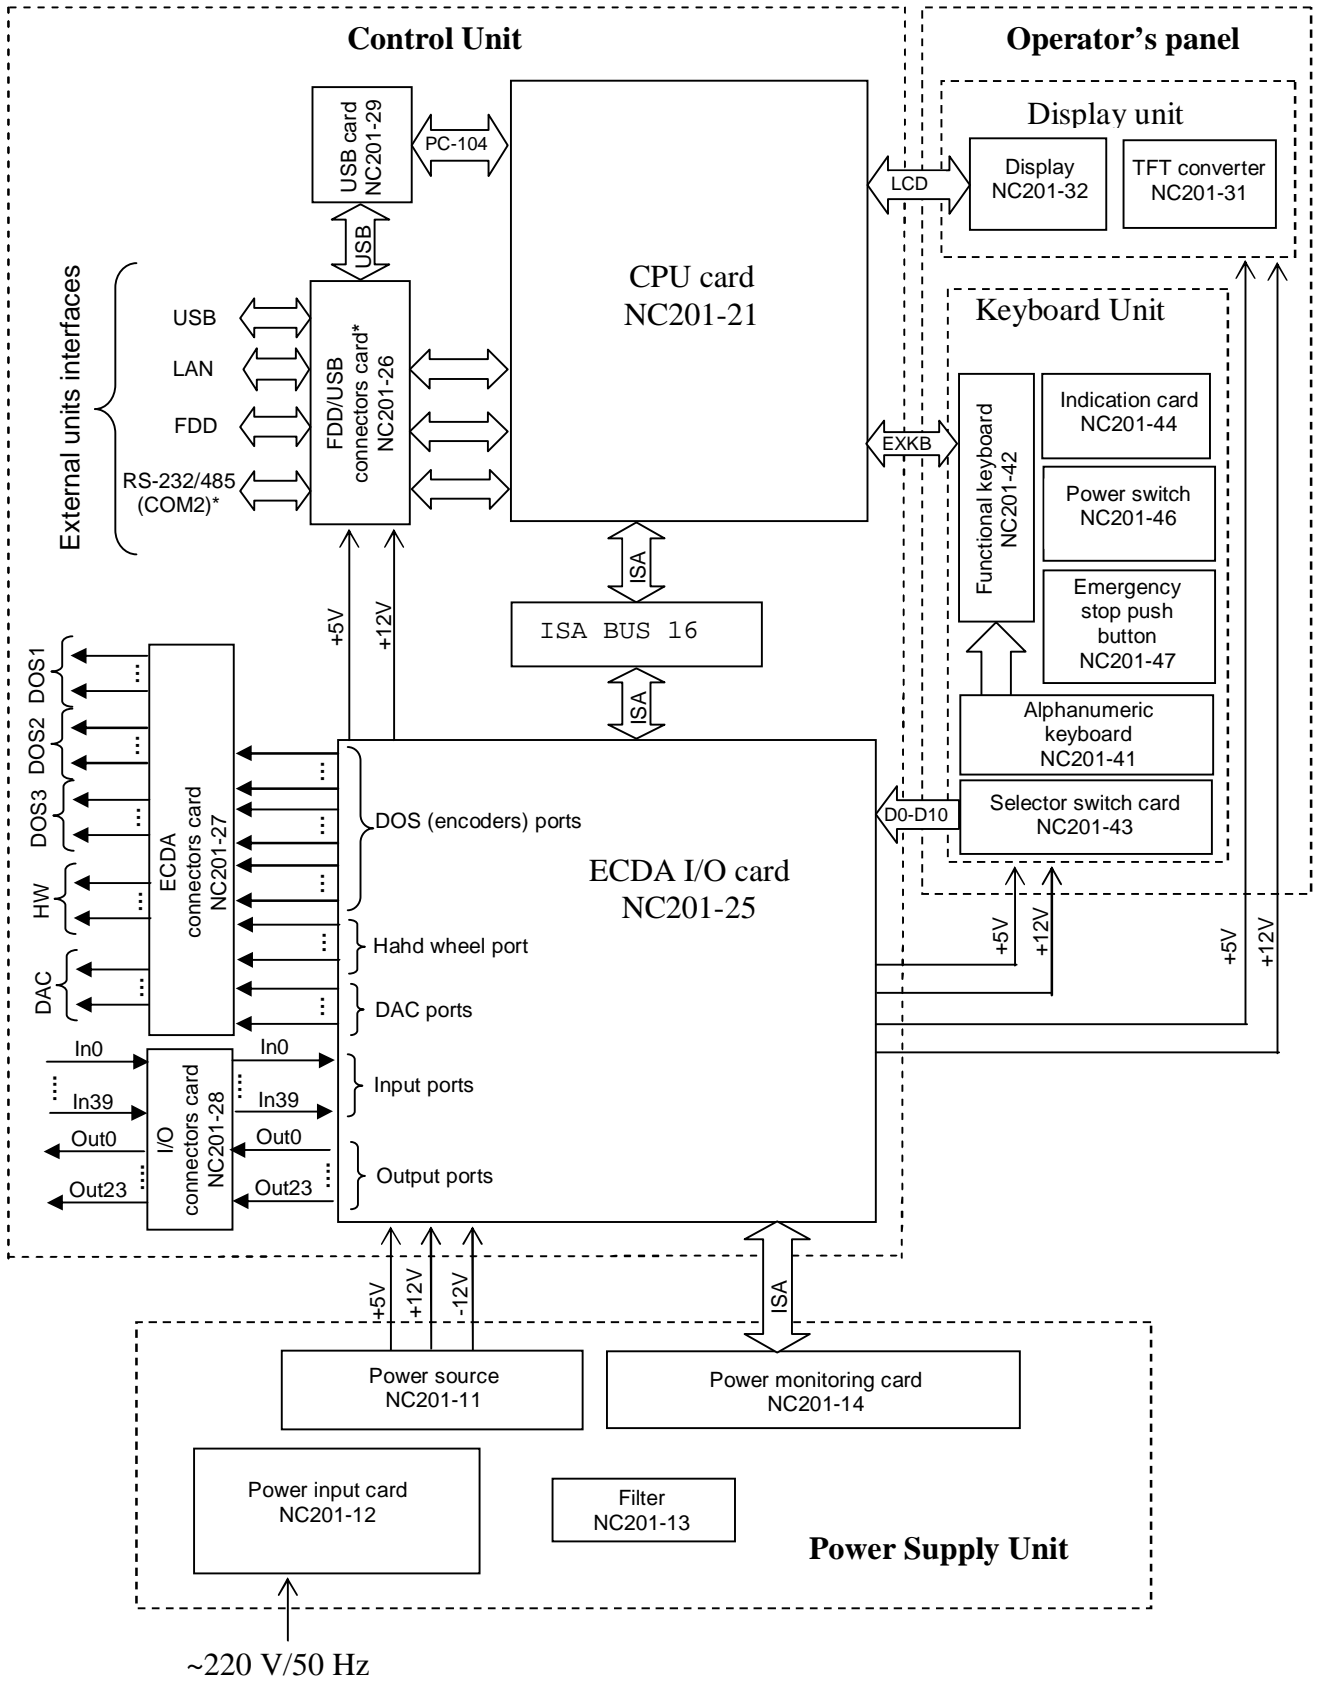

Figure 3.1 – Structural Diagram of the NC-201 Unit
3.1.1 The CNC Unit is a software-controlled device that incorporates both hardware and software (SW) parts. The CNC Unit block diagram is represented in Figure 3.1. The CNC structure incorporates a control unit (CU), operator's control panel (OCP) and a power supply unit (PSU). Connections between the component parts of the CNC Unit and its structural elements, also a brief description of the component parts are presented in Table 3.1.